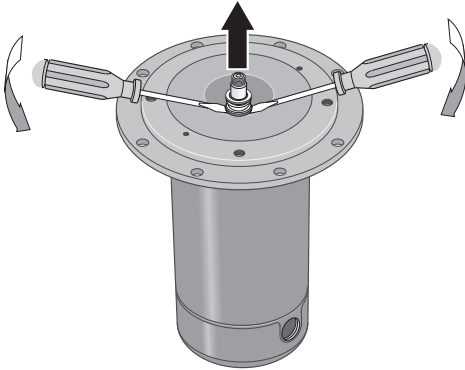

Figure 13: Remove Seal plate
2. Remove rotating half of seal by placing two screwdrivers under seal ring and **carefully** prying up (Figure 13).